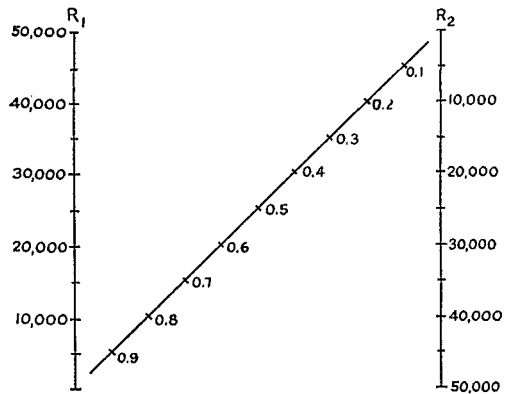
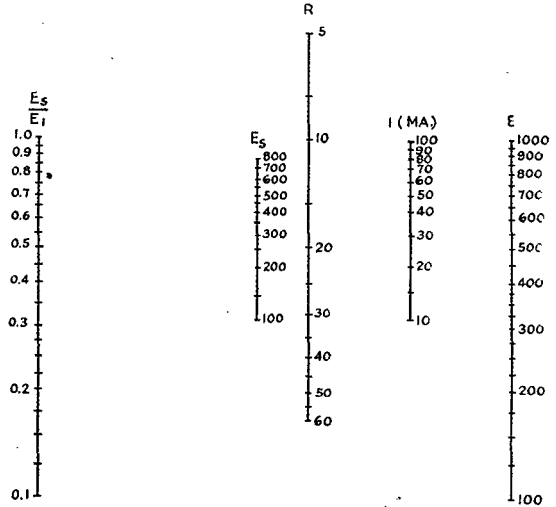

Fig. 2 — Graph showing the proportion of voltage across R_2 as a function of R_1 and R_2 (refer to Fig. 1).
Fig. 3 — Nomograph for determining voltage and current relationships in a voltage-regulating circuit.
Figs. 2 and 3 are nomographs to provide a ready solution of Equations (1) and (2). In Fig. 2, the values of R_1 and R_2 are aligned,
starting voltage, is found. This value then is entered in Fig. 3 and combined with the value of E_1 on the E scale to find the starting voltage. E_o (on the E scale) is applied to R_2 and the current, I , noted from the chart. Then $E_1 - E_o$ (again on the E scale) is applied to the value of R_1 . This current should be 10 to 35 ma. greater than the current previously determined, or 20 to 70 ma. for two tubes in parallel, and so forth. If either R_1 or R_2 is unknown, it will be necessary to use Fig. 3 to find the minimum proportion $\frac{E_s}{E_1}$, and then combine
this value with the known resistance in Fig. 2, following with a test for currents in Fig. 3.